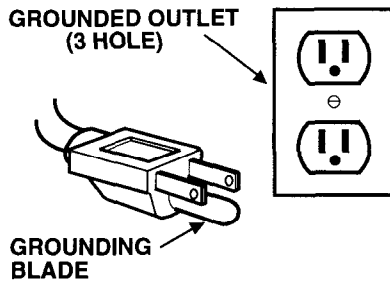

Fig. 5
2. Plug extension cord into a grounded (earthed) power outlet. (Figure 5)